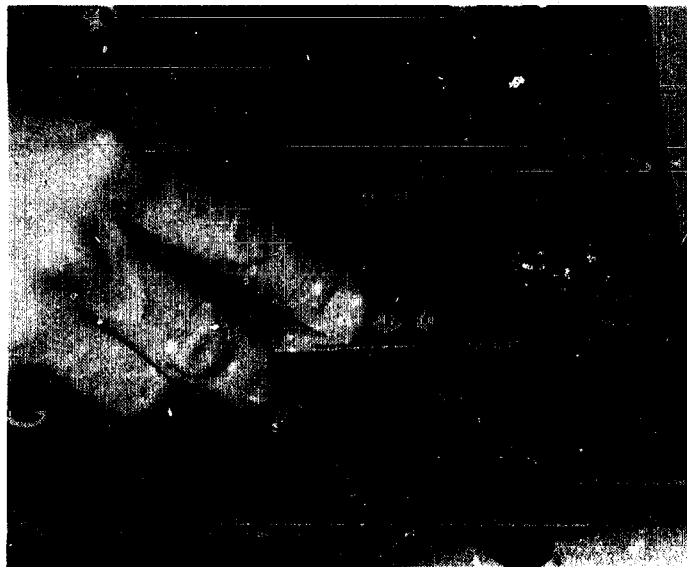

FIGURE 16
3. Remove the time delay relay from its bracket. The screws pictured in Figure 16 hold the relay to the bracket. Mount the replacement time delay relay on the bracket.